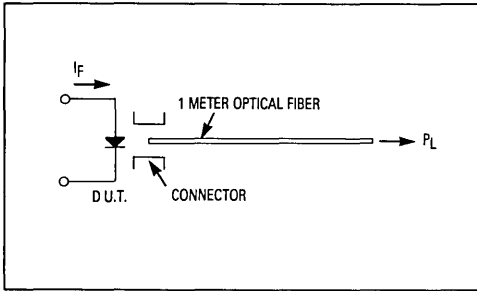

Figure 1. Launched Power Test Configuration
(1) Printed Circuit Board Mounting
(2) Total Power Output, P_O , is defined as the total power radiated by the device into a solid angle of 2π steradians
(3) Power Launched, P_L , is the optical power exiting one meter of 0.045" diameter optical fiber bundle having $NA = 0.67$, Attenuation = 0.6 dB/m @ 940 nm, terminated with AMP connectors (See Figure 1.)